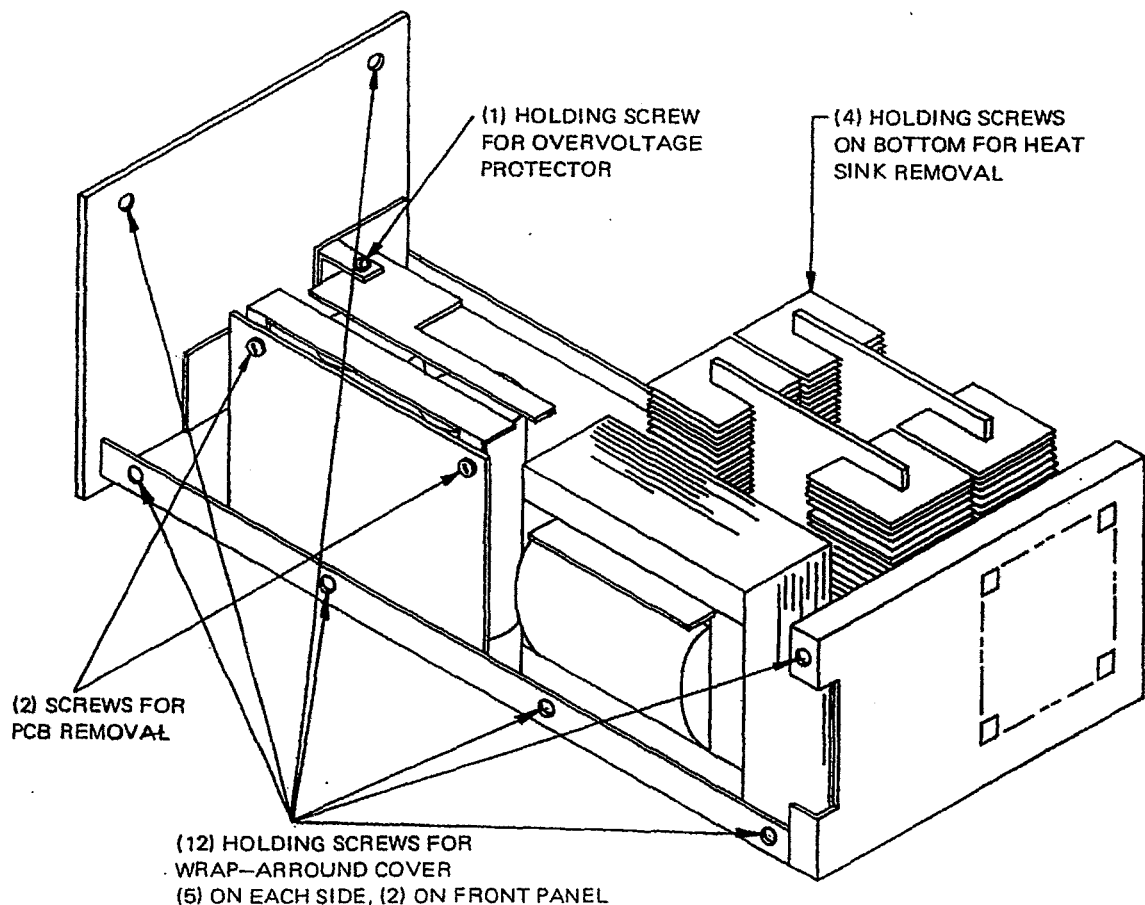

FIG. 5-1 DISASSEMBLY, JQE HALF-RACK MODELS.
### 5-3 DISASSEMBLY (Refer to FIG. 5-1)
- a) **COVER REMOVAL.** The wrap-around cover may be taken off by loosening and removing its twelve (12) holding screws, five (5) on each side and two (2) on the front panel.
- b) **CIRCUIT BOARD REMOVAL.** The printed circuit board is mounted with two (2) screws, which are removed from the side. After removal of the four printed circuit board connectors, the board may be lifted from its slide-guide.
- c) **HEAT SINK REMOVAL.** The heat sink assembly is mounted with four (4) screws to the chassis bottom. After the screws are taken out, the wires may be removed by means of the "quick disconnect" terminals.
- d) **OVERVOLTAGE PROTECTOR (A4) REMOVAL.** (On Models with suffix- "VP" only). Remove the holding screw as indicated (Refer to FIG. 5-1) and lift assembly out.